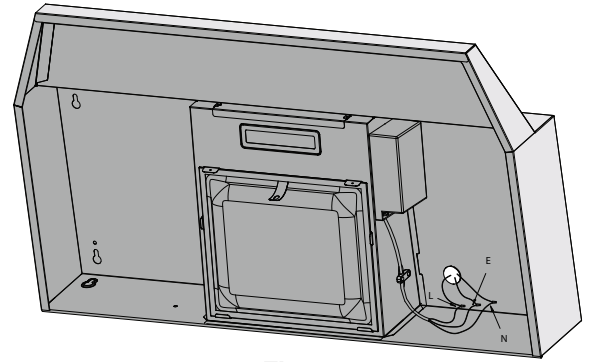

Figure 7
- Depending if using the wiring hole A or hole B, connect cable to range hood wiring (see Figure 7).